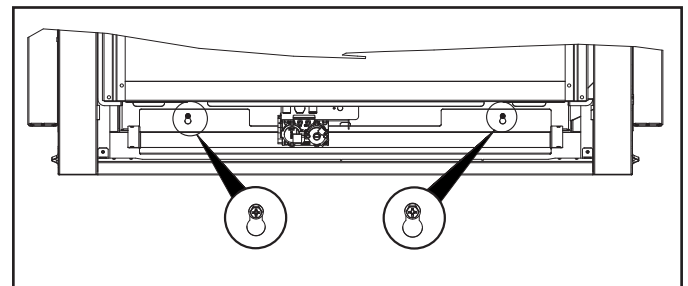

Figure 4.7 Drip Tray
- Note orientation of drip pan on shoulder screws before removing. Replace drip trays in same orientation as shown in Figure 4.7.